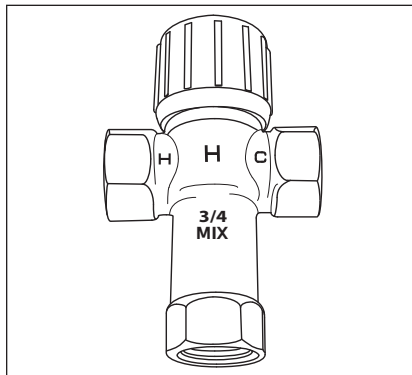

Figure 8 - Thermostatic Mixing Valves installed at each point-of-use can help prevent scalds.
- Point-of-use Thermostatic Mixing Valves (Figure 8 on page 8)
Install Thermostatic Mixing Valves (Figure 8) to regulate the temperature of the water supplied to each point-of-use (for example, the kitchen sink, bathroom sink, bath and shower). Consult the valve manufacturer's instructions or a qualified person.
▲ WARNING! Even if the water heater thermostat is set to a relatively low temperature, hot water can scald. Install Thermostatic Mixing Valves at each point-of-use to reduce the risk of scalding (see page 4 and Figure 8).